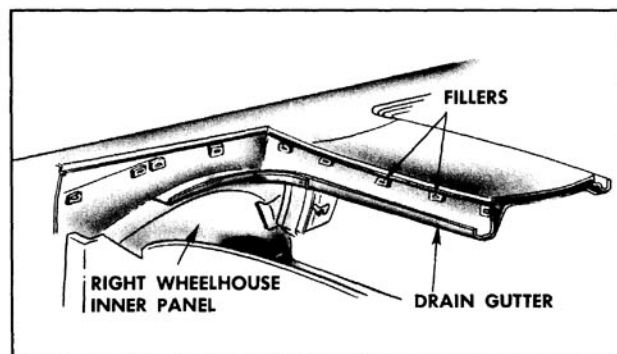

Fig. 16-443 Checking Trim Stick Fillers
12. Inspect rubber trim stick fillers cemented to body below pinchweld. Re-cement, if necessary. (Fig. 16-443)